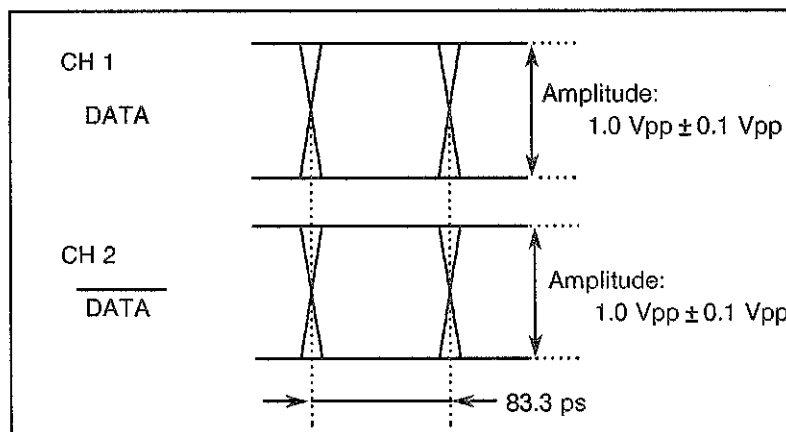

Figure 8-16 DATA,  $\overline{\text{DATA}}$  Output Waveform (AC, f = 12000 MHz)
- (8) Normal when the waveform is eye patterns as shown in Figure 8-16.